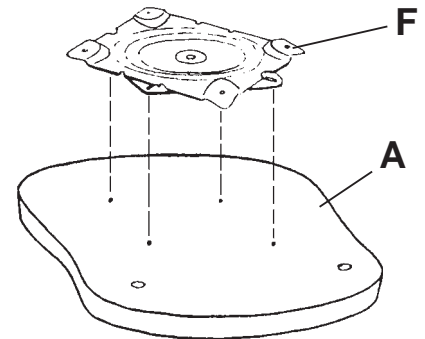

FIG. 1
1) Turn the top of the swivel (F) approximately 1/8 turn in relation to the bottom of the swivel. Center the swivel on the bottom of the seat (A) as shown in FIGURE 1. The holes for the screws in the swivel will line up with the indentations on the seat. Remove the swivel and drill 1/8" diameter pilot hole 1/2" deep, in the center of each indentation. (**Do not** attach the swivel at this time.)